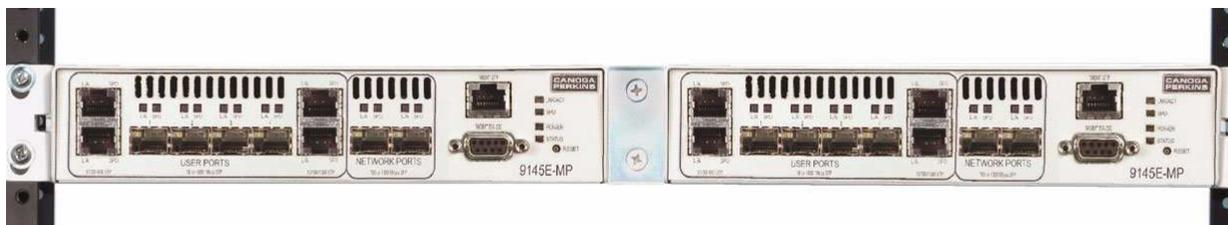

Figure 3-7 Mounting Two 9145EMPs on Rack
3. Install two screws through each bracket into the threaded holes of the mounting rack (Figure 3-7). Torque the screws to the rack manufacturer's specifications.